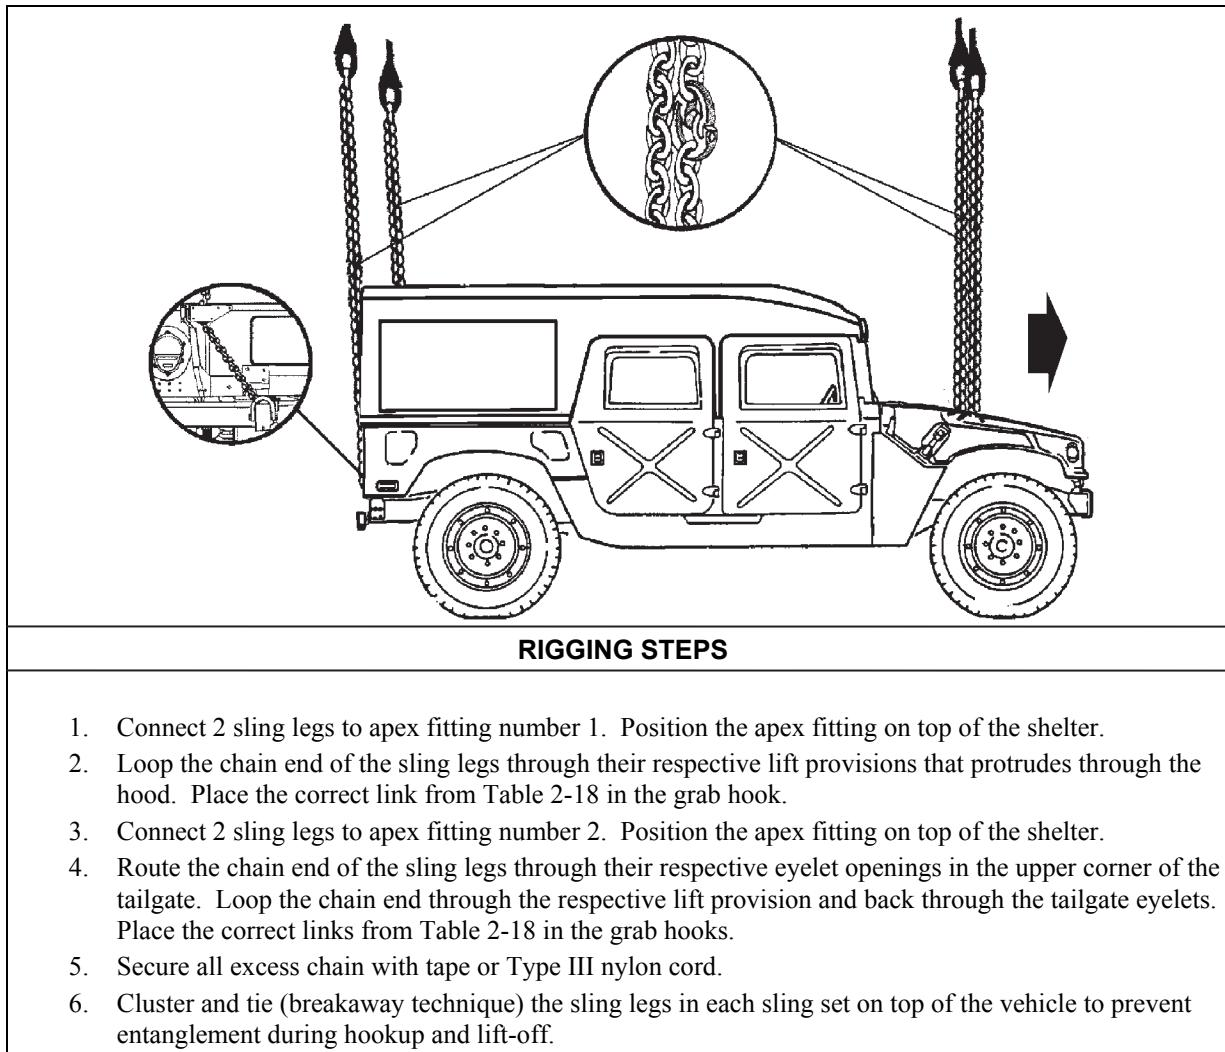

Figure 2-17. M998 Truck, Cargo, 1 1/4-Ton with AMTECH Helmet Hardtop
- **Rigging.** Rig the load according to the steps in Figure 2-17.